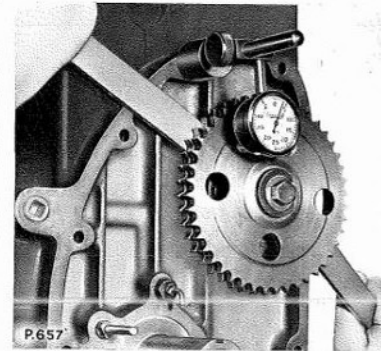

Fig. B.30. Checking the camshaft end float, using a dial gauge
- Note:** Prior to removing the camshaft timing wheel, check the end float of the camshaft with a dial gauge, as shown in Fig. B.30. If the end float exceeds .003 in. to .005 in. (.076 mm. to .127 mm.) a new thrust plate must be fitted during installation. (See also para. 4 under "Inspection and Overhaul".)